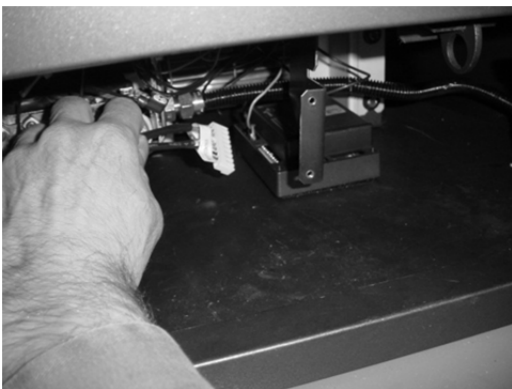
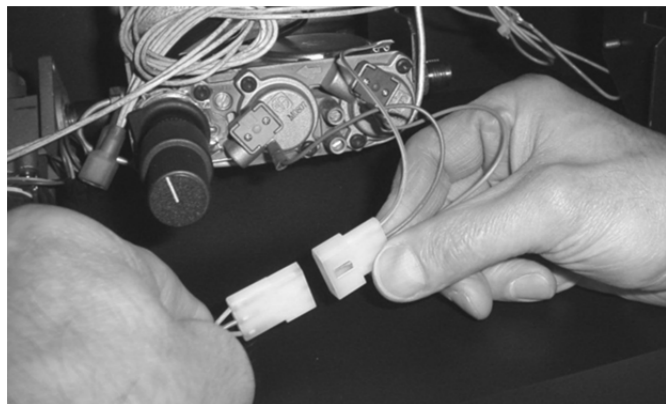

Figure 19
Figure 20
- 12 Attach the wiring harness to the burner control (see Figure 19). Attach the gas control valve molar connector (see Figure 20).